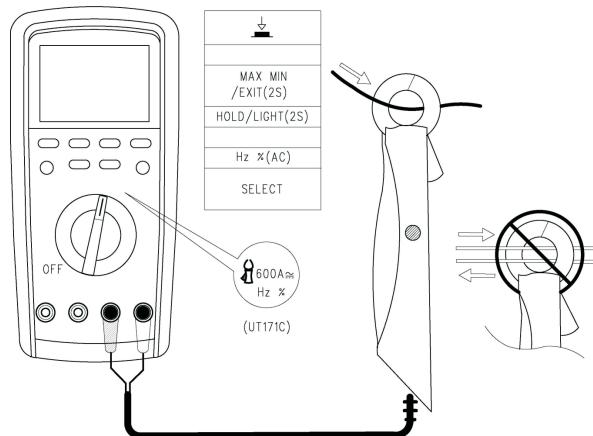

Figure 11
**9. 60A/600A ACA/DCA External input current calipers measurement (see Figure 11)**